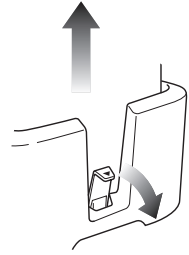

Fig. 4
- 2 To remove the motor base from inside the dough station, pull the locking tab away from the back of the motor base while you lift the motor base out of the dough station. (Fig. 4)